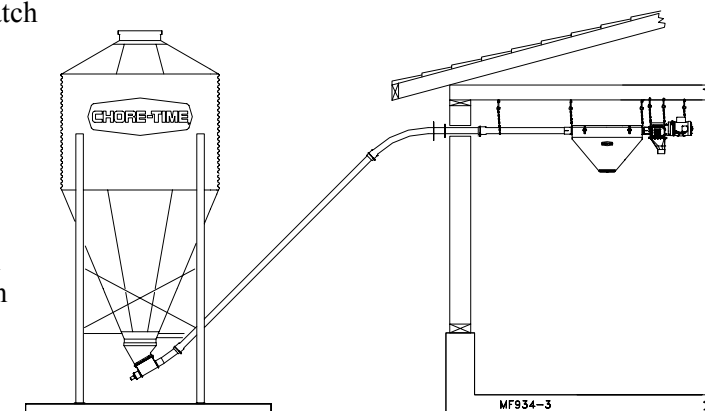
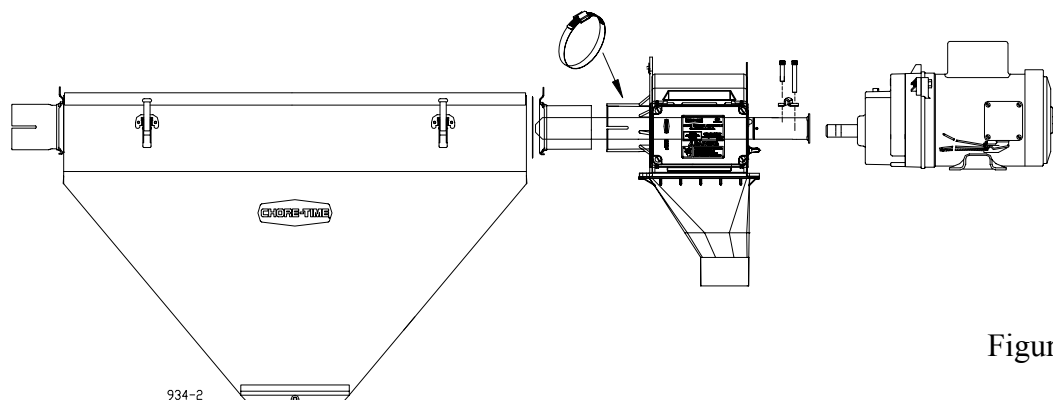

Figure 1
Figure 2
1. Secure the Control Unit Anchor to the outgoing end of the screener, as shown in Figure 2, using 5/16-18 hardware. A rubber seal is supplied to be installed between the screener body and the Control Unit Anchor. The seal should be installed as shown in figure 2
2. Slide the Drive Assembly over the output shaft on the gearhead. See Figure 2. Secure the Driver Assembly to the shaft using the 5/16-18 socket head cap screws.
3. Secure the Power Unit to the Control Unit, using (4) 5/16-18x5/8" screws, as shown in figure 2.
4. Install the Funnel on the bottom of the Control Unit, using (4) 1/4-20 screws and nuts. Install the Control Unit on to the Control Units Anchor and secure with heavy duty band clamp.
5. Provide adequate support to both sides of the Screener and the Power Unit. See Figure 1. The Tube Anchor Weldment (located on the incoming end of the Screener) is designed with slots to facilitate suspensions chain or cable. The outgoing end of the Screener will be supported by the Control Unit suspension system.